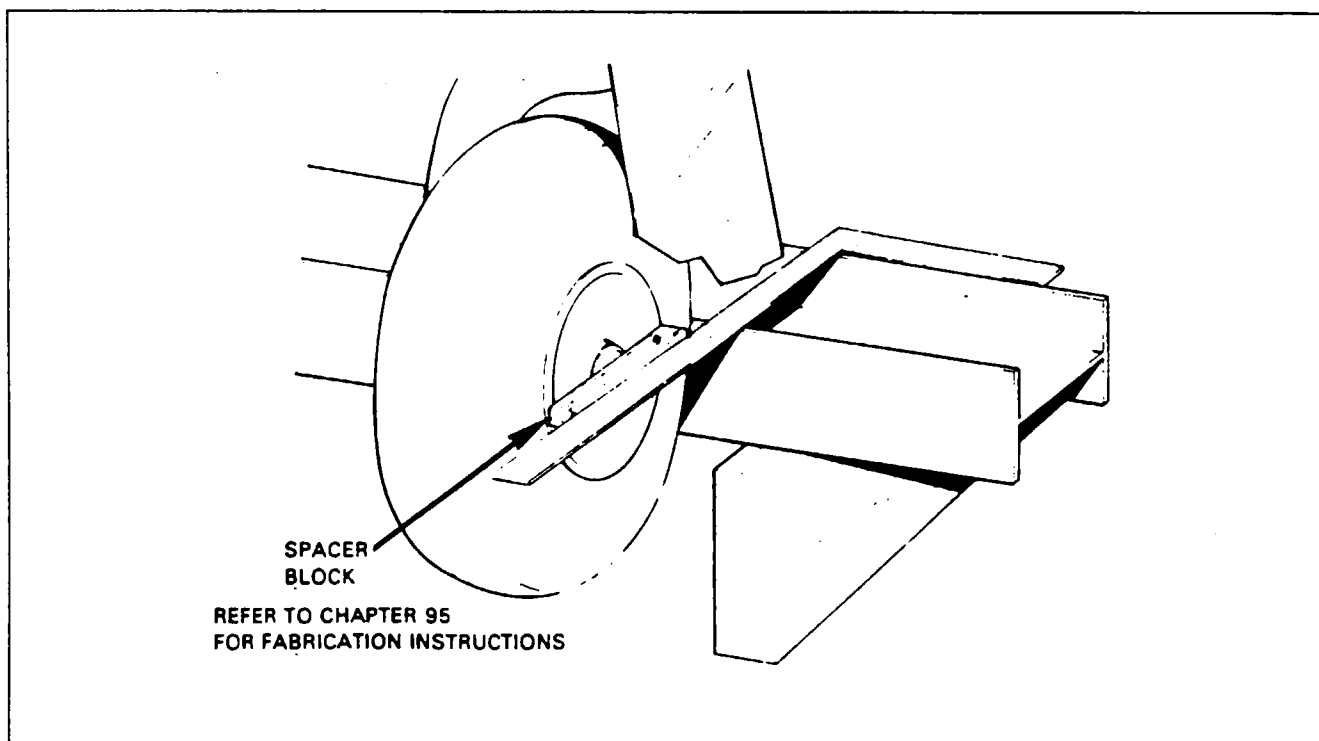

Figure 32-4. Aligning Main Gear
2. Place a spacer block against the wheel rim at the hub line, with the wide end toward the front of the wheel to check and/or adjust the landing gear for proper toe-in of .5 degree. (Refer to Figure 32-4.) Set a square against the straightedge and spacer block and check to see if its outstanding leg bears against the spacer block.